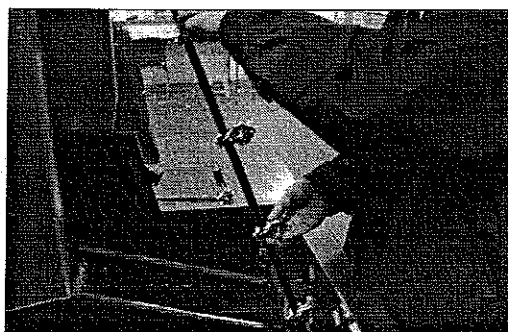

Fig 14
15. Lift the left end of the manifold up, carefully remove the manifold out of the grill. (See Fig. 14)